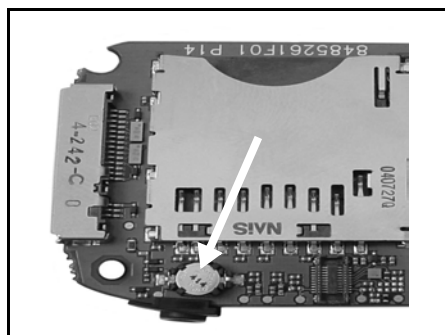

Figure 7-14.
1. Locate lower edge of Retainer next to Coin Cell (see Figure 7-14).